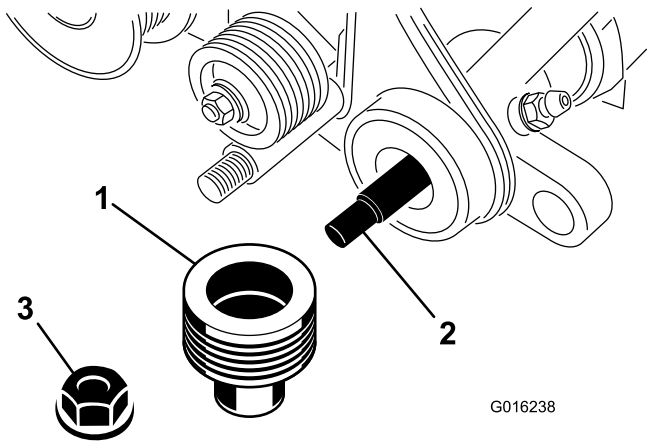

**Figure 5**
5. Remove the plow bolt, nut, and washer that secures the height-of-cut-arm assembly to the side plate (Figure 5).